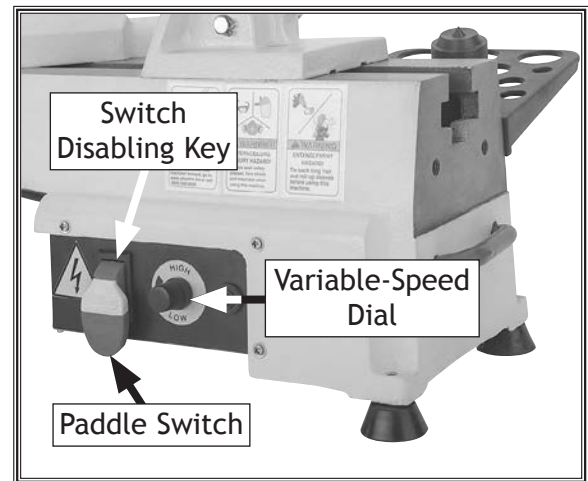

Figure 12. Location of variable-speed dial and paddle switch.
3. Rotate variable-speed dial completely counterclockwise to low (see **Figure 12**).
7. Remove switch disabling key (see **Figure 12**).